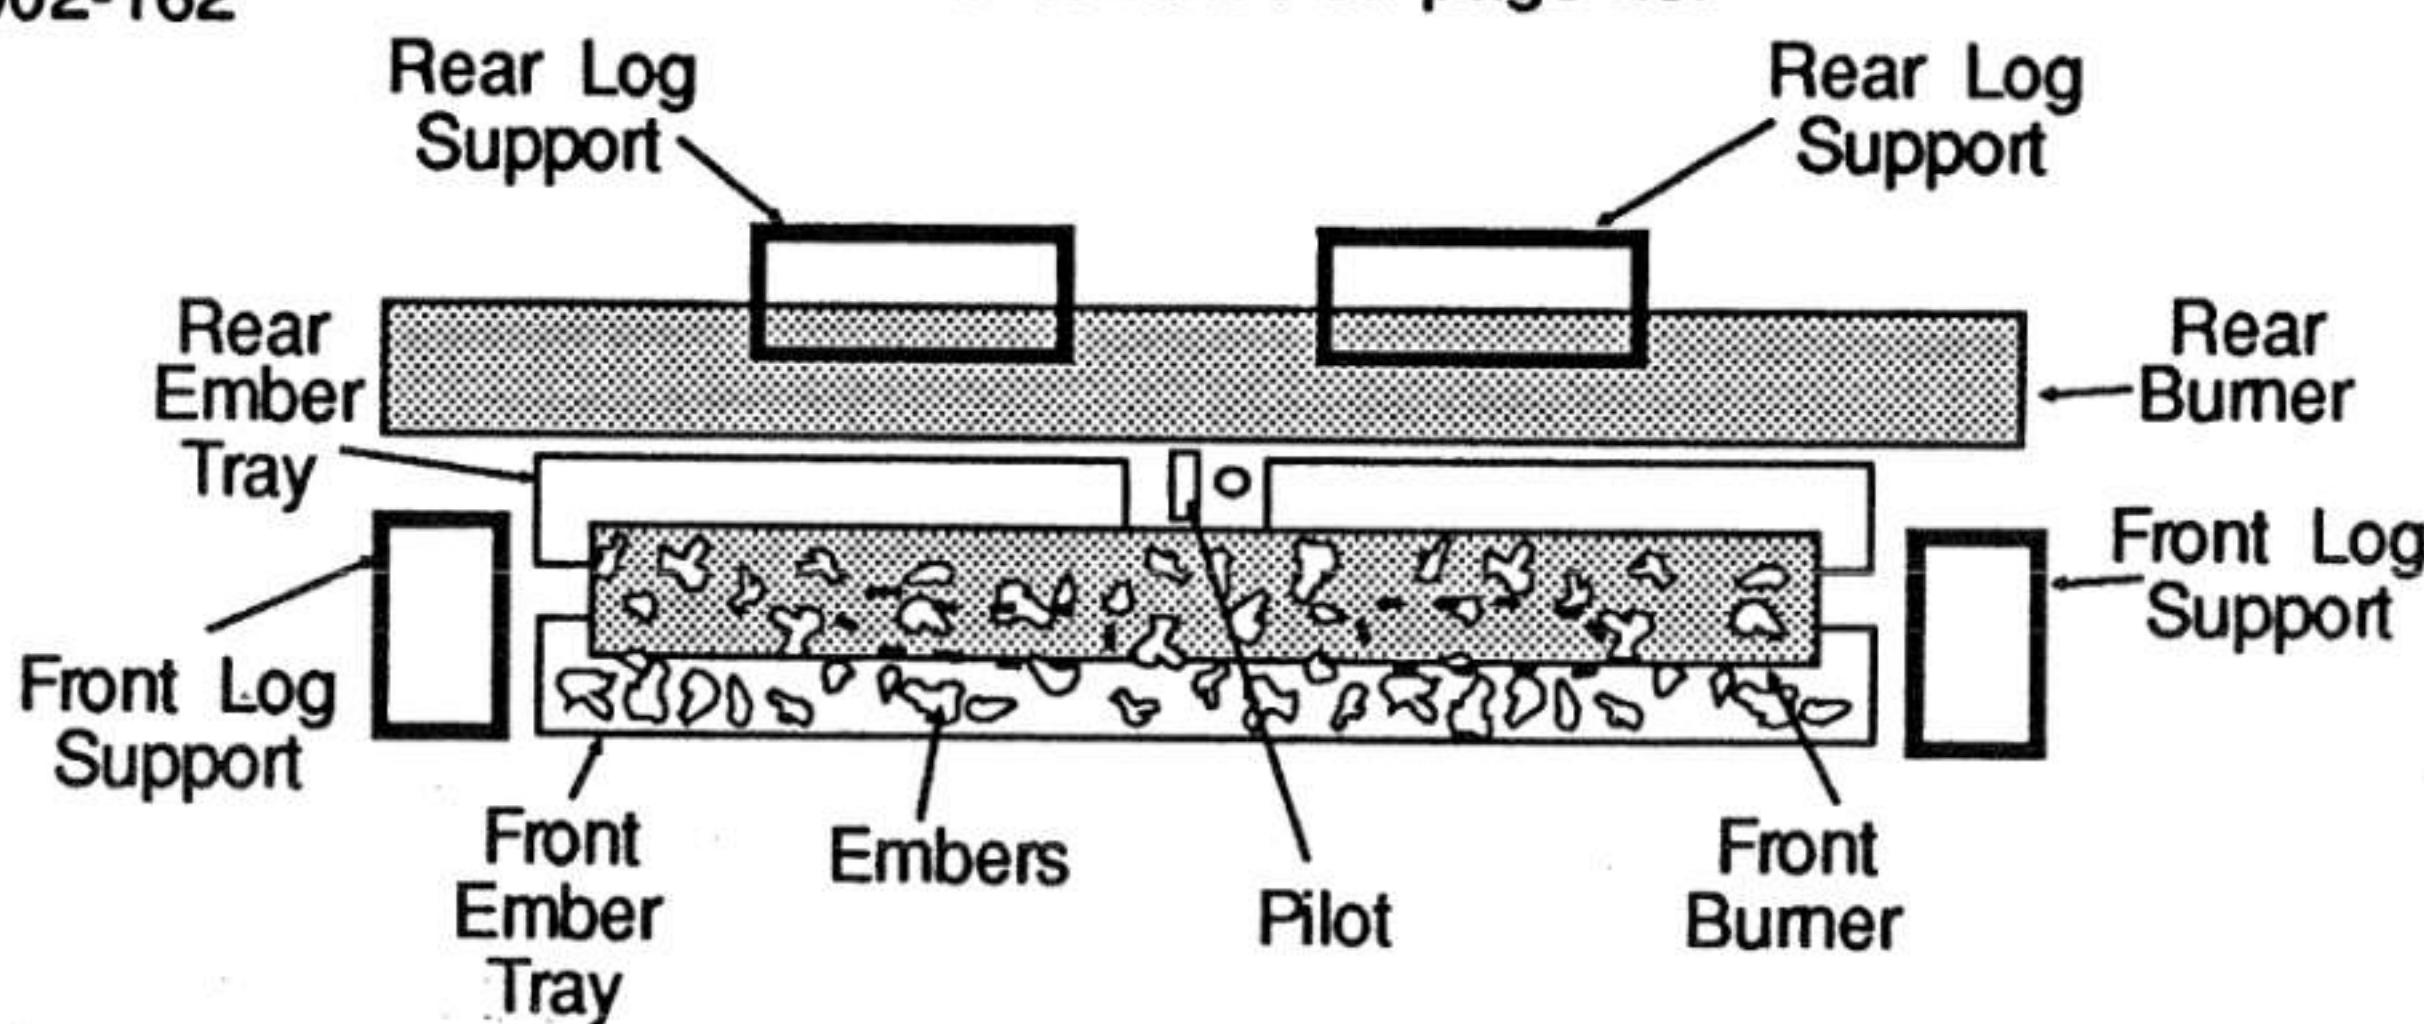

Fig. 14: Top View
- 3) Place embers along full length of the front burner tray. Put embers on top of the front burner but keep embers clear of the pilot and make sure the embers do not prevent the front log from sitting properly on the front log stands. See Fig. 14. Do not put any embers in the rear ember tray. Use only about half of the embers in the package. Keep the remaining embers for use after annual maintenance of cleaning the inside firebox. See Maintenance on page 26.